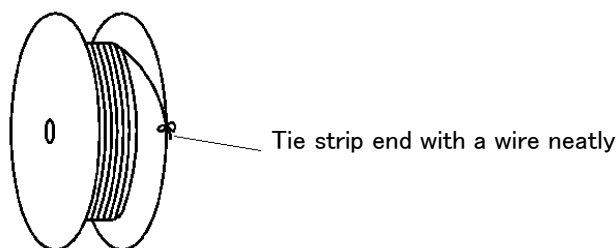

Fig.5
- (3) Avoid storing the contact reel in a moist or dusty place. Stock the reel in a comparatively dry and clean place (5~35°C, 45~85%RH) away from direct sunlight.
- (4) When removing the contact reel from the machine, fasten the end of contact strip onto the edge of the reel with use of proper string or wire. (See Fig.5)